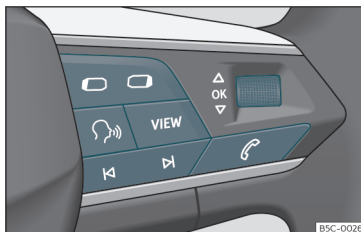

Fig. 62 Right side of the multifunction steering wheel: buttons to the menus and information displays on the instrument panel.
As long as a priority 1»» page 72 warning is active, it will not be possible to access any menu. Some warnings can be confirmed and hidden with the button **OK**»» Fig. 62.
- If a message or vehicle symbol is displayed, press the button **OK**»» Fig. 62; if necessary, several times.
- To change menus, use buttons  or  »» Fig. 62.
- To open the menu or the information displayed, press the button **OK**»» Fig. 62 or wait
- In the menu displayed, turn the right thumbwheel of the multifunction steering wheel»» Fig. 62 until the desired option of the menu is highlighted. The option appears framed.
- Press the button **OK**»» Fig. 62 to make the required modifications. A mark indicates that the system or function is activated.